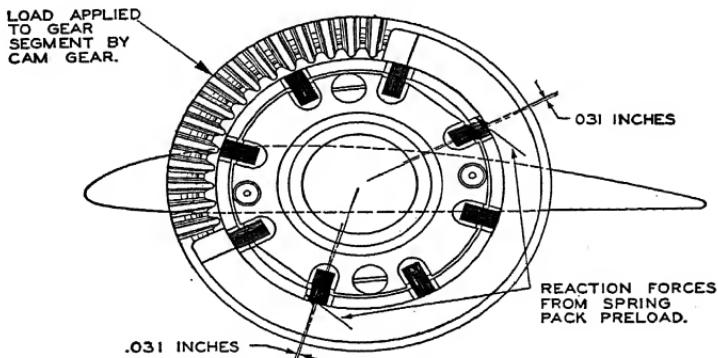

FIG. 33.—Diagram showing gear-segment preloading.
*Blade and Gear Segment Assembly.*—1. Check the blade bushings to be sure that they are properly installed in the blades. Although the blade bushing appears symmetrical about its central axis, actually two of the spring pack slots are offset in order to preload the gear teeth (Fig. 33). For this reason, there is only one angular position in which the bushing may be installed for a given type of propeller. The same blade bushing may be